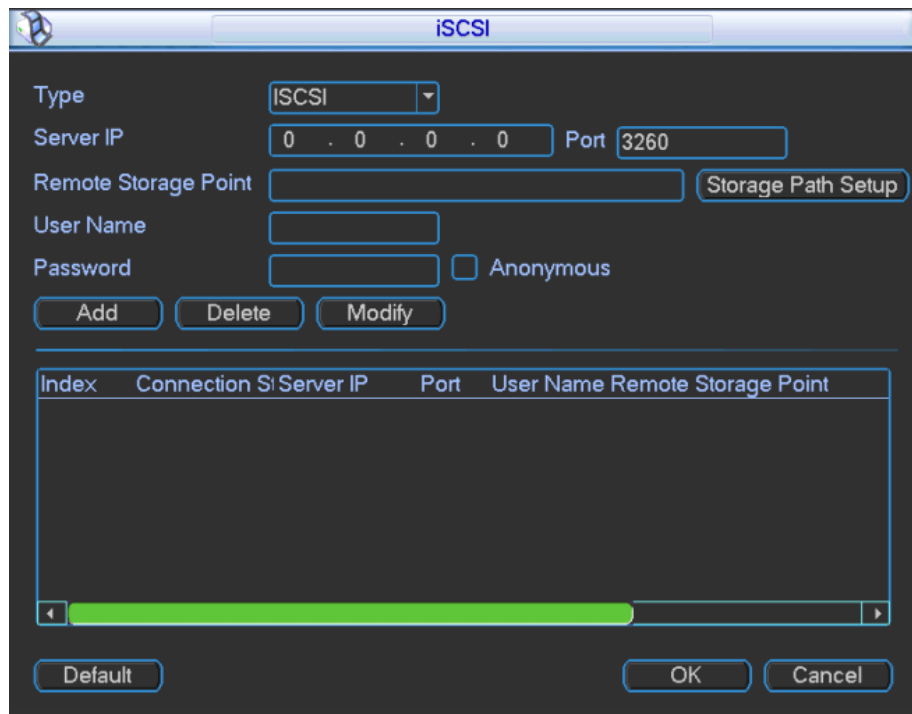

Figure 3-48
Step 1 In main menu, select "Setup> Network> Network Setup > iSICI", and the system displays "iSICI" interface, as shown in Figure 3-48.